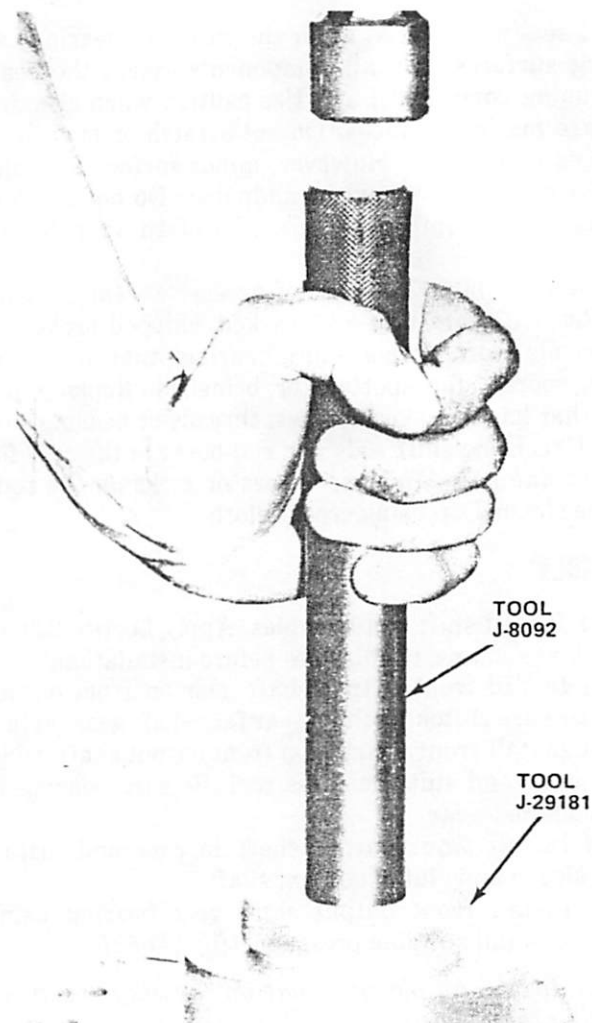

Fig. 2D-84 Front Output Shaft Front Bearing Race Installation
(35) Insert front and rear output shaft shift forks into case (fig. 2D-85).
(36) Install front output shaft shift rod poppet ball and spring in front bearing cap.
(37) Compress poppet ball and spring and install front output shaft shift rod part way in case.
(38) Insert front output shaft shift rod through shift fork.
(39) Align setscrew hole in shift fork and rod. Install and tighten setscrew to 14 foot-pounds (19 N•m) torque.
(40) Install rear output shaft shift rod poppet ball and spring in front bearing cap.
(41) Compress ball and spring and install rear output shaft shift rail part way in case.
(42) Insert rear output shaft shift rod through shift fork.
(43) Align setscrew holes in fork and rod. Install and tighten setscrew to 14 foot-pounds (19 N•m) torque.